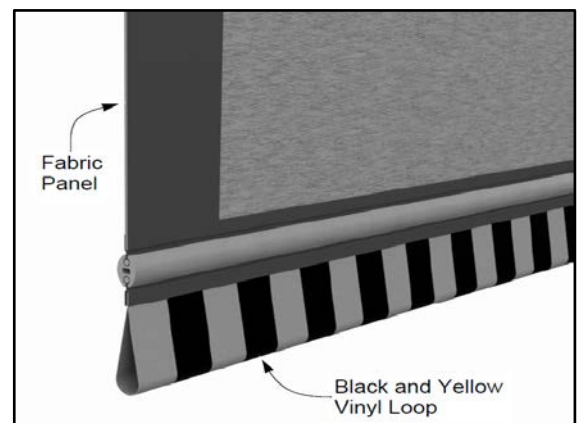

Figure 64
2. Inspect the sealed bladder inside the bottom vinyl loop of the door panel. Replace if the loop is damaged or leaking sand. (See Figure 64.)